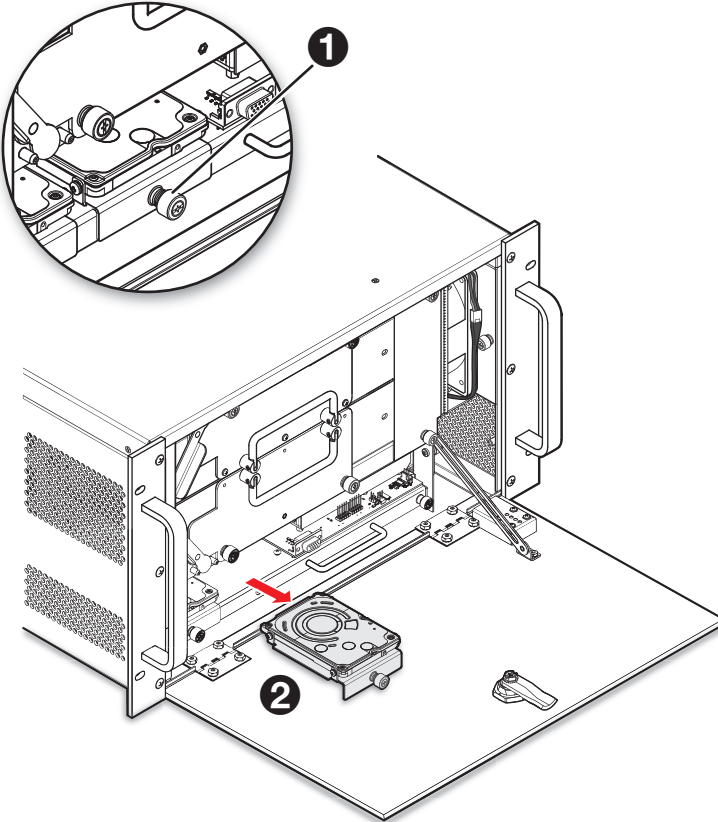

Figure 1. Removing the Disk Drive
2. Use a screwdriver or other appropriate tool to loosen the thumbscrew on the drive (see figure 1, ❶) by rotating it counterclockwise.
3. Grasp the thumbscrew firmly and pull the drive (❷) straight toward you until it is free.